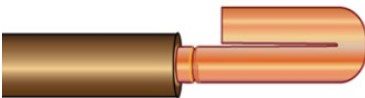
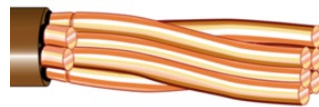

Fig 6. Conductor damaged during insulation stripping
Fig 7. Strands broken during insulation stripping
- Avoid damaging the conductors (*Fig 6*) or breaking strands (*Fig 7*) when removing insulation- many cable strippers have an adjustable depth of cut.